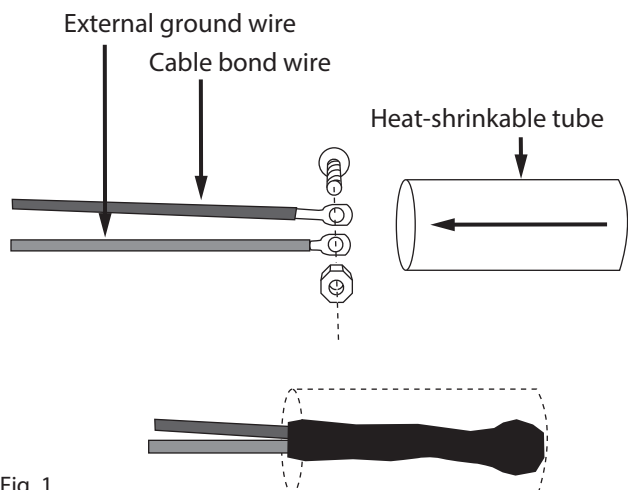

Fig. 1
3. To electrically insulate the connection, slide the provided heat-shrinkable tube over the nut and screw, and shrink it with the hot-air gun. (Fig. 1)